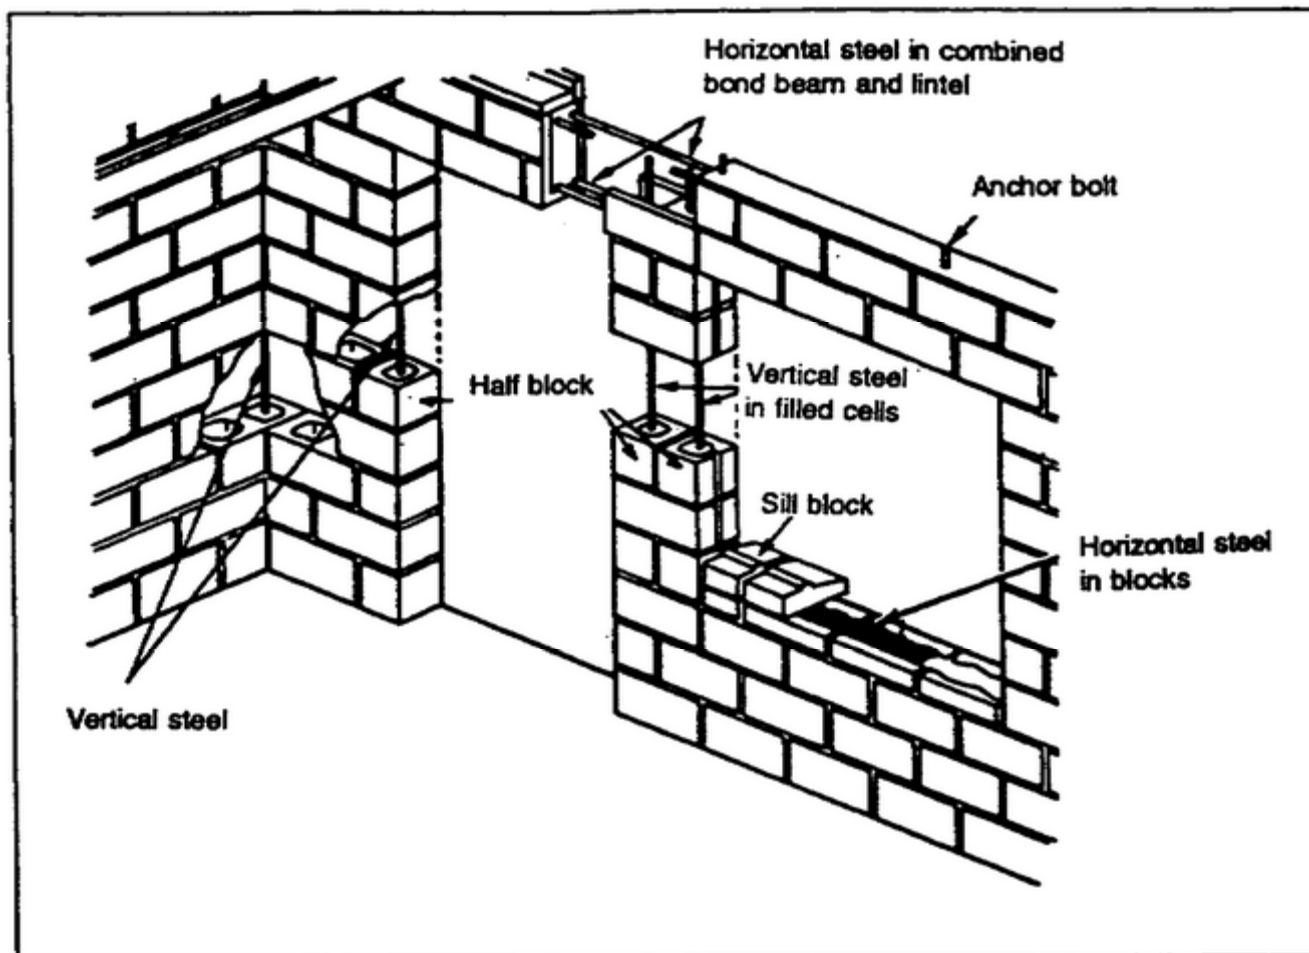

Figure 2-33. Placing reinforcing steel
b. Vertical Steel. Use vertical steel bars in the corners and around door and window openings. Figure 2-33 shows the placement of both vertical and horizontal steel reinforcing bars.